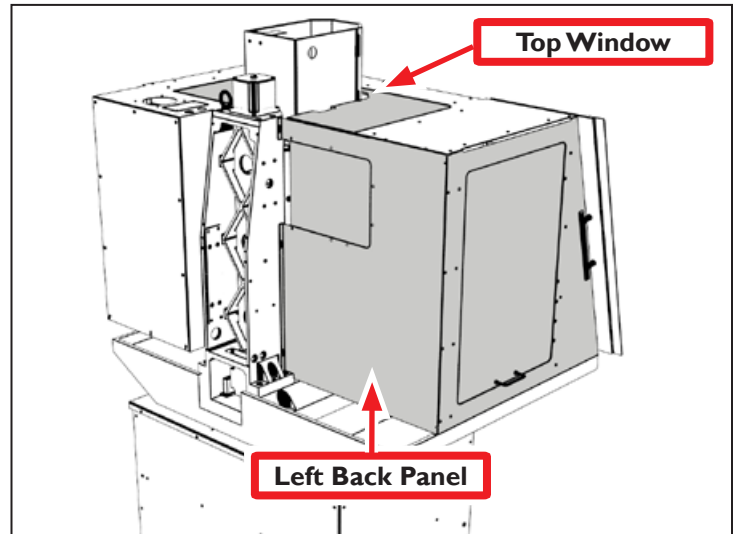

Figure 3
1. From the enclosure's Left Back Panel, use a Phillips screwdriver to remove nine 10-32 x 3/8" Phillips screws. The screws secure the Left Back Panel to the machine column and the left side panel of the enclosure (see **Figure 3**).